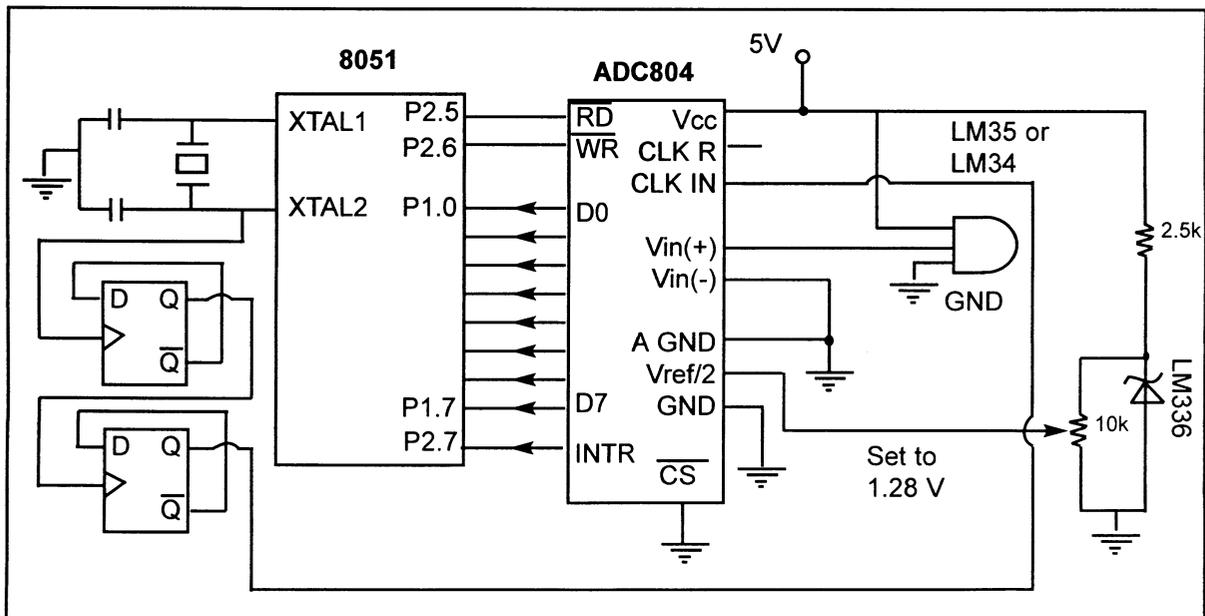

Figure 12-10. 8051 Connection to ADC804 and Temperature Sensor
Figure 12-10 shows connection of a temperature sensor to the ADC804. Notice that we use the LM336-2.5 zener diode to fix the voltage across the 10K pot at 2.5 volts. The use of the LM336-2.5 should overcome any fluctuations in the power supply.
35. What is the purpose of the LM336 Zener diode around the pot setting the  $V_{ref}/2$  in Figure 12-10?